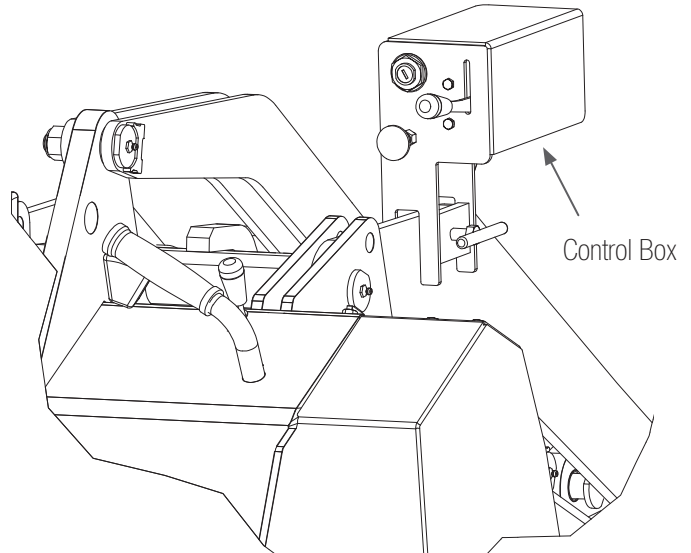

Figure 2. Control Box clamped to Loader Arm
5. Affix the Terminator control box to the right hand loader arm as shown in Figure 2. A butterfly bolt is provided for convenience and alleviates the necessity for tools.